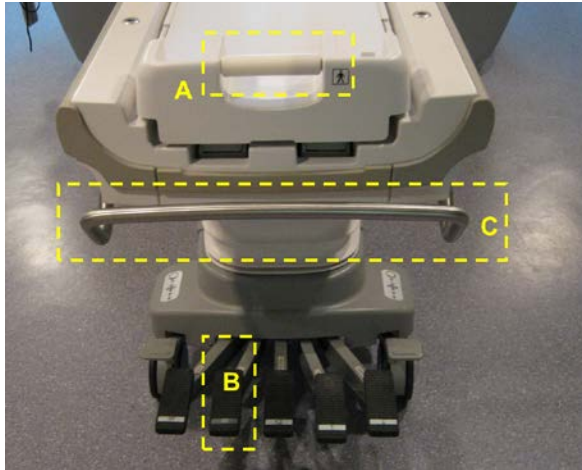

Figure 7. Position of cradle as seen on any of the
- 10) Detach the cradle from the Dog House by twisting the release handle at the end of the cradle. (A in Fig 7)
- 12) Undock the patient table by pressing down on the foot pedal (B in Fig. 7). If the table fails to undock see appendix 2 for troubleshooting tips.
- 13) Move the table out of the way using handle (C in Fig. 7) by pulling straight back from the magnet bore, next to cabinet with head coils.